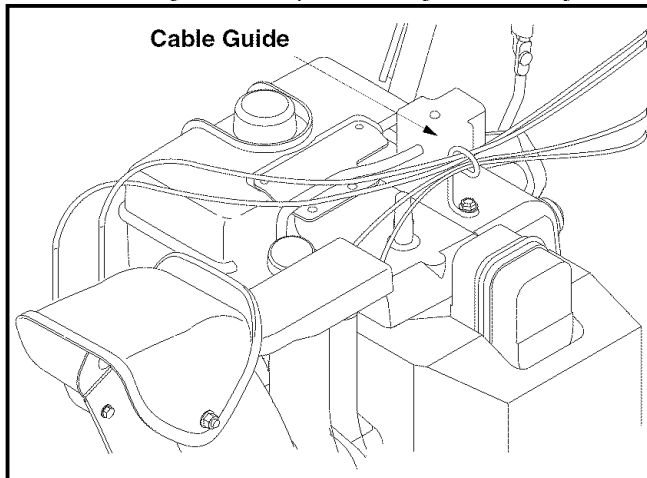

Figure 9
12. Check that all cables are properly routed through the cable guide on top of the engine. See Figure 9.